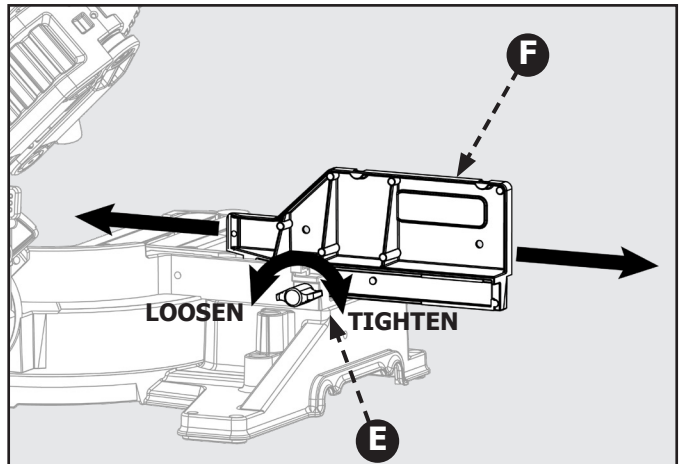

Figure 34
This saw is equipped with an adjustable extension fence. To extend or retract the fence refer to Figure 34 and follow these instructions: Loosen the lock knob (E) by rotating counterclockwise and the slide the fence (F) into the desired position. Make sure to re-tighten lock knob (E) by rotating clockwise.
**⚠ DANGER:** Always check to make sure lock knob (E) is tightened before making a cut. Failure to do so may result in injury.